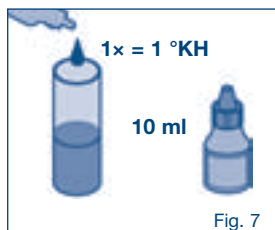

Fig. 7
- The carbonate hardness can be requested from the water supplier or established by means of a quick test (droplet test, Fig. 7). The bypass setting can be selected based on the carbonate hardness and its application. The typical filter capacities are shown in Table 1–3 in Section 10.